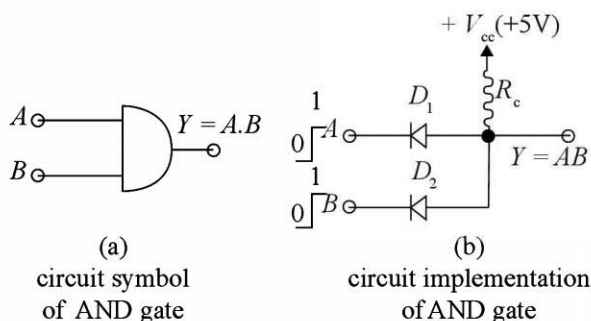

Fig. 19.17
**In positive logic** high state +5V is assigned a '1' and low state (0V) a value '0' as illustrate in Fig. 19.17. **In negative logic** high state is assigned a '0' while a low state is assigned a '1'.
**AND gate** A positive logic AND gate assumes high state if and only if all the inputs are high. Circuit symbol of two input AND gate is shown in Fig. 19.17 (a) and circuit implementation using switching diodes in Fig. 19.17 (b). Operation symbol is '.' as it behaves like multiplication.